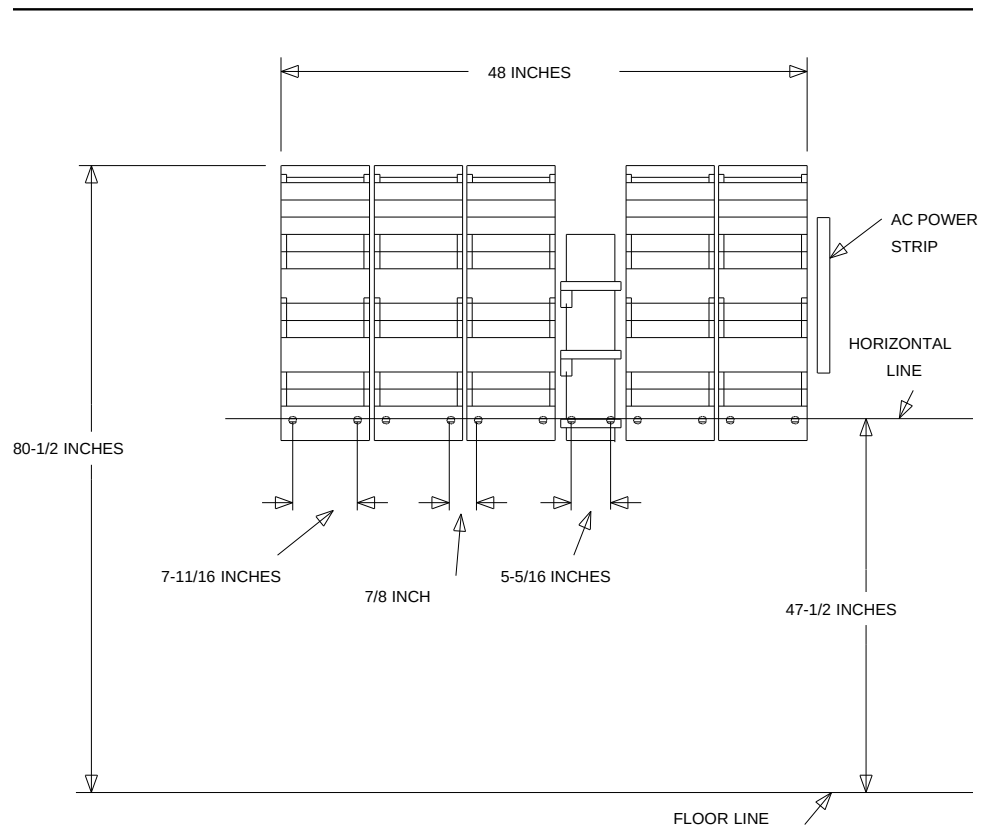
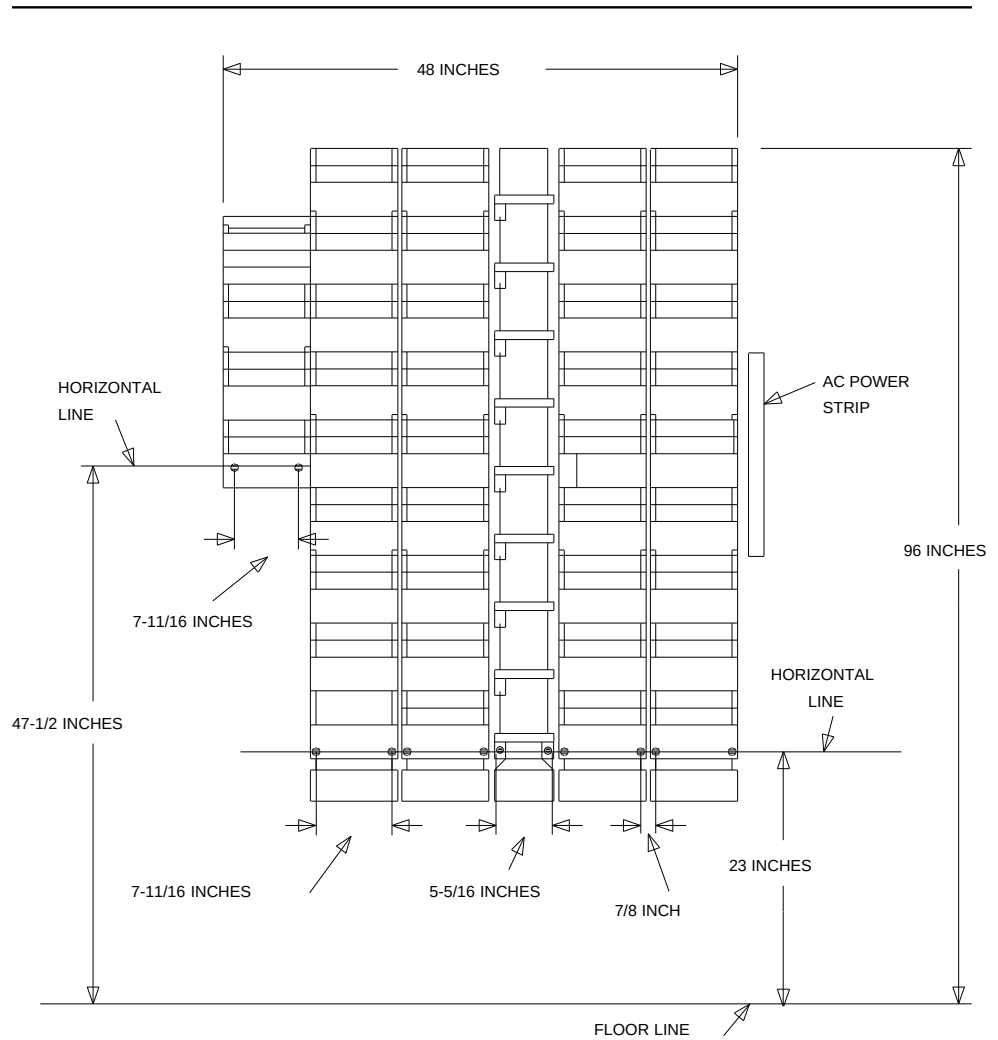

Figure 9-12. Mounting 300-Pair 110P-Type Terminal Blocks (Approximately 288 4-Pair or 384 3-Pair Station Capacity Illustrated)
Figure 9-13. Mounting 900-Pair 110P-Type Terminal Blocks (Approximately 432 4-Pair or 576 3-Pair Station Capacity Illustrated)
1. If 300-pair terminal blocks are to be installed, draw a level horizontal line on the wall 47-1/2 inches above the floor (Figure 9-12). If 900-pair terminal blocks are to be mounted, draw a level horizontal line on the wall 23 inches above the floor (Figure 9-13).